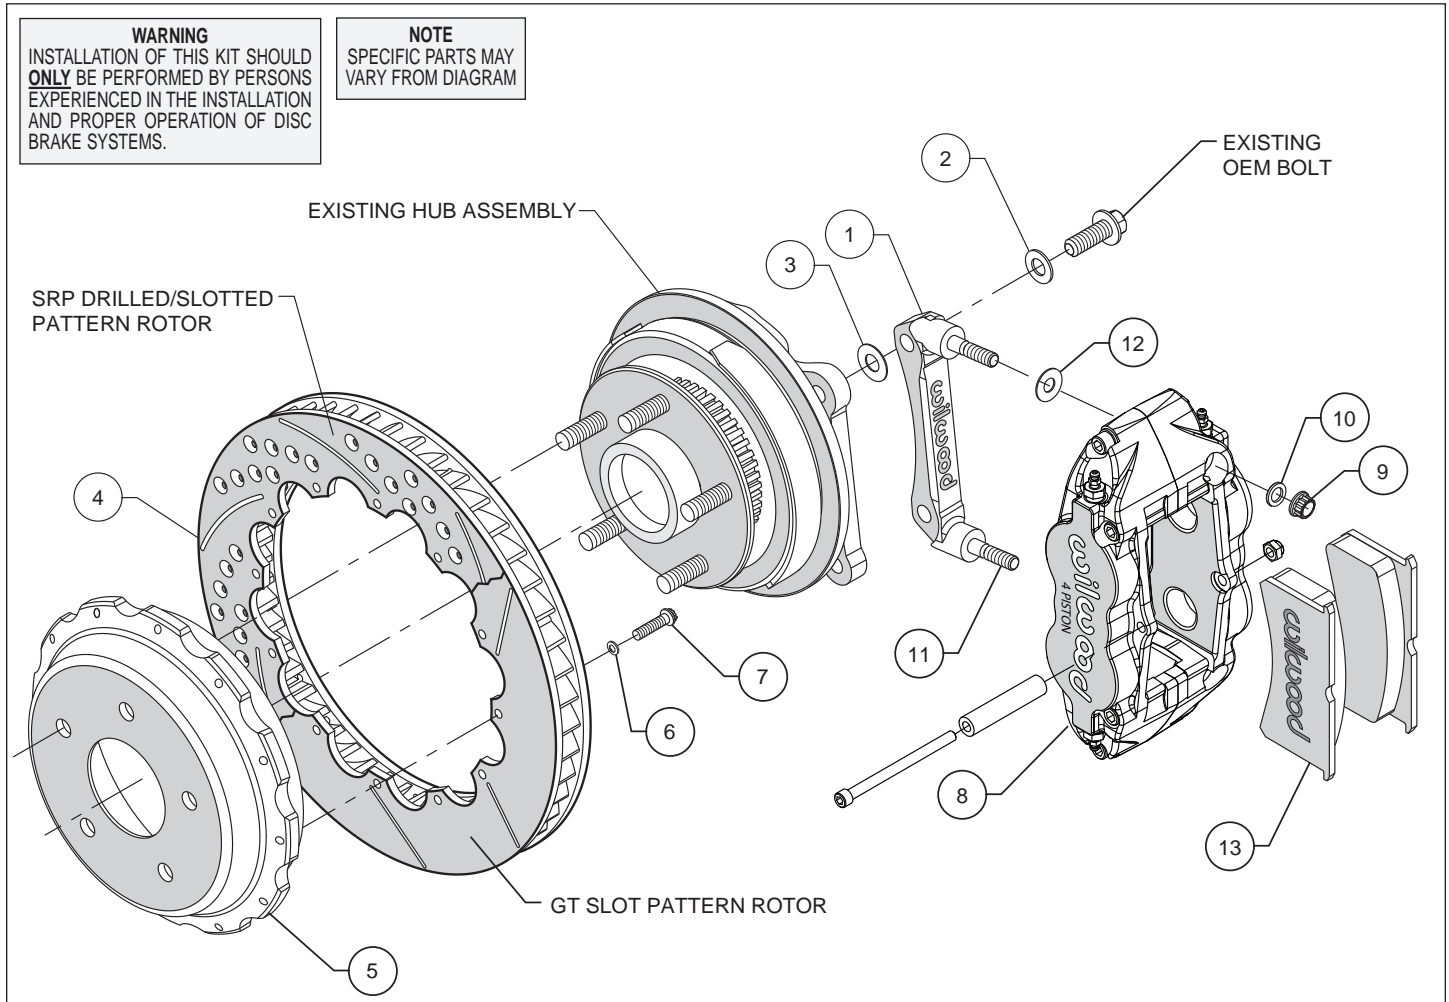
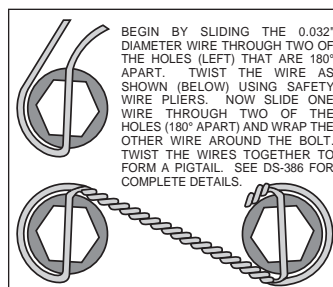

Figure 1. Typical Installation Configuration
Figure 4. Safety Wire Diagram
- The caliper mount bracket assembly (1) should be installed first with clean, dry threads on the existing OEM mounting bolts. Install the bracket from the rear side of the hub by sliding stock bolt through flat washer (2), through the caliper mounting bracket (1) and shim washer (3) through the OEM caliper mounting bracket ears as shown in Figure 1 and Photo 1. The bracket must tighten squarely against the inboard side of the caliper mount bosses on the upright. Inspect for interference from casting irregularities, machining ridges, burrs, etc. Use one thin shim (3) between the bracket and upright during initial trial fitting. Later, after the caliper, pad, and rotor alignment has been checked, and any necessary shims have been put in place, the mounting bolt threads should be coated with red *Loctite*® 271 and torqued to 75 ft-lbs.
- Orient the rotor (4) and hat (5) as shown in Figure 1 and Photo 2. Attach the rotor to the hat with bolts (7) and washers (6). Using an alternating sequence, apply red *Loctite*® 271 to the threads and torque bolts to 140 **in-lb**. For an added measure of security, the bolts may be safety wired using standard 0.032 inch diameter stainless steel safety wire as shown in Figure 4. Please refer to Wilwood's data sheet DS-386 for complete